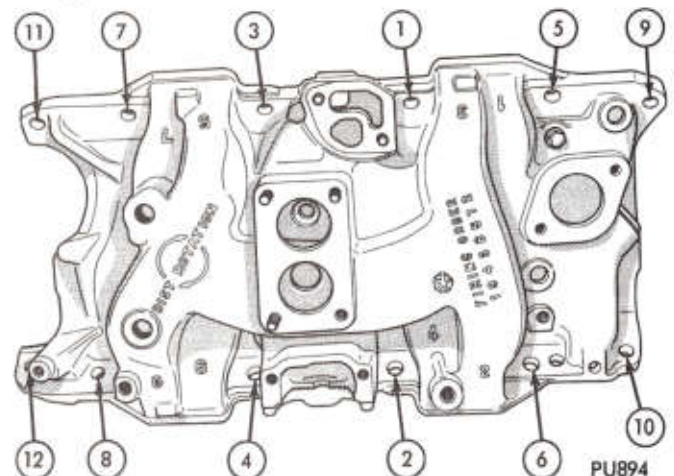

Fig. 14—Intake Manifold 318 (5.2L) and 360 (5.9L) Engines (Typical)
(1) Clean manifold in solvent and blow dry with compressed air. Inspect manifold for cracks.
(2) Inspect mating surfaces of manifold for flatness with a straightedge.
(3) Inspect exhaust crossover passages through manifold (Fig. 14). If passages are coated with hard, black carbon, they should be scraped clean and sand-blasted to remove the carbon deposits.
(9) Place a drop (approximately 1/4" diameter) of rubber seal RTV onto each of the **four** manifold to cylinder head gasket corners.
(10) Carefully lower intake manifold into position on the cylinder block and cylinder heads. After intake manifold is in place, **inspect to make sure seals are in place.**
(11) Install the twelve attaching cap screws "Finger Tight". Tighten cap screws one through four to 25 ft. lb. (34 N·m) and tighten remaining cap screws 25 ft. lb. (34 N·m) in the tightening sequence shown in (Fig. 14) then retighten cap screws one through four to 40 ft. lb. (54 N·m) and follow by retightening the remaining cap screws to 45 ft. lb. (61 N·m) in sequence shown (Fig. 14).
(12) Install exhaust manifolds and tighten screws to 20 ft. lb. (27 N·m) and nuts to 15 ft. lbs. (20 N·m).